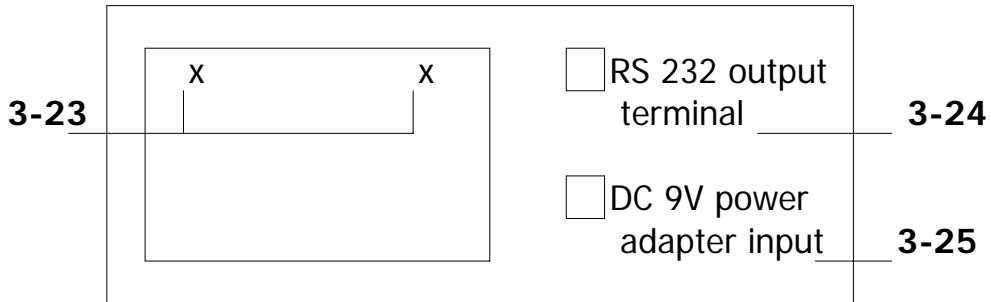

Fig. 1
- 1) Push the " Power Switch " (3-13, Fig. 1), all the display segments will bright then show 0 or some random values. Now the instrument is ready for measurement.
- 2) Push the " Range Switch " (3-15, 3-16, 3-17, Fig. 1) to the " 10 MHz ", " 100 MHz " or " 2.7 GHz " position according to the measurement required.
- 3) a. Input the measured signal to Channel A/BNC socket (3-2, Fig. 1) via. BNC cable (optional, PB-21 or BB-22) if the measured frequency is within 10 MHz.
b. Input the measured signal to Channel B/N type socket (3-3, Fig. 1) via N type cable (optional, NN-23) if the measured frequency is within 10 MHz to 100 MHz.
c. Input the measured signal to Channel C/N type socket (3-4, Fig. 1) via N type cable (optional, NN-23) if the measured frequency is within 100 MHz to 2700 MHz.
- 4) According the different input range, select the Sensitivity Switch (3-19, 3-20, 3-21, Fig. 1) to the " HIGH " (high sensitivity) or " NORMAL " (normal sensitivity) position.
- 5) Slide the Gate Time Switch (3-18, Fig. 1) to the " FAST " or " SLOW " position to determine the convenient sampling time & display resolution.
- 6) The display unit is Hz for 10 MHz range. The display unit is MHz for 100 & 2.7 GHz range. The Gate Indicator (3-22, Fig. 1) will be flashed one for each sampling time passed.
- * If select to " SLOW " position, then push The RESO. button (3-10, Fig. 1) at once 3 times will result 3 kinds Sampling Time & Resolution combination. For more details please see the following table :
During the measurement, it will hold the display values, if push the " HOLD Button " (3-8, Fig. 1) at once.
- 1) During the measurement, the circuit will memorize the last measured values if push the " REL. Button " (3-9, Fig. 1) at once, then LCD will show "0" & a "REL" marker appear on the right down corner.
- 1) Input the measured signal to Channel A/BNC socket (3-2, Fig. 1) via. BNC cable (optional, PB-21 or BB-22)
- 2) Select the " Period Switch " (3-14, Fig. 1) Select the " 10 MHz range Sensitivity Switch " Switch (3-19, Fig. 1) to the " HIGH " (high sensitivity) or " NORMAL " (normal sensitivity) position.
- 3) Slide the Gate Time Switch (3-18, Fig. 1) to the " FAST " or " SLOW " position to determine the convenient sampling time & display resolution.